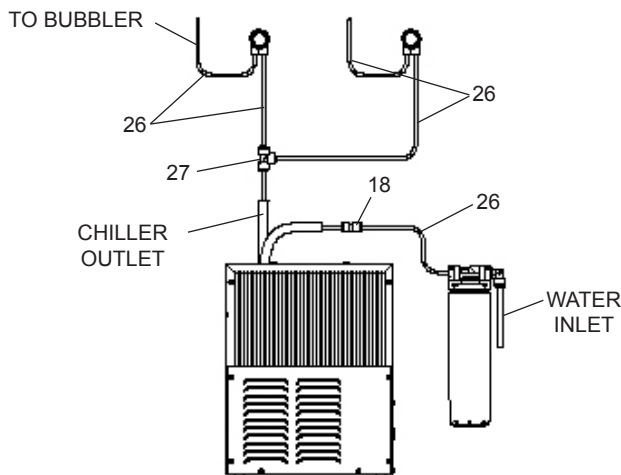

Figure 4 - LRPB Tube Routing
- 4. LRPB Models:** Mount filter head assembly to side of chiller (See Figure 4). Make connections between filter and building supply line (3/8" O.D. tube not provided). Inlet port is marked on the chiller (1/4" O. D. copper tube). Install a 1/4" x 1/4" union (provided) on the marked chiller inlet port. Insert the 1/4" poly tubing (provided) into the fitting on filter and connect the union to the chiller. (See Figure 4)